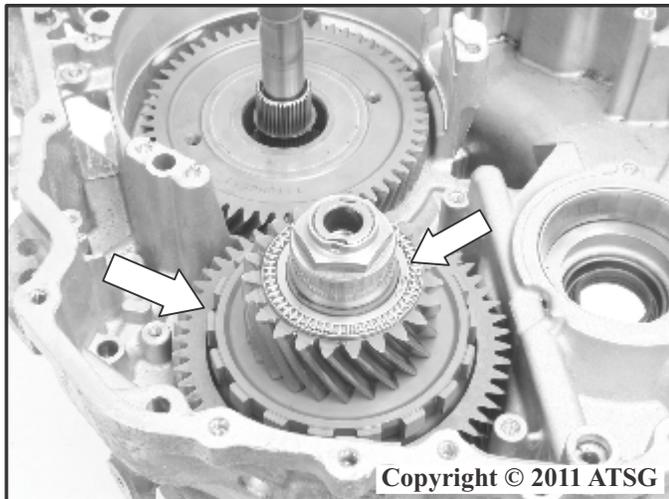

Figure 228
44. Using Universal Clamp Press J 45053 or other adequate puller device, attach the clamp and carefully install the front differential assembly transfer drive gear assembly into the transmission case as shown in Figure 228. It will be necessary to twist the transfer drive gear assembly in order to spline with all the frictions of the 4-5 clutch (C3) drum.
45. Install the front differential transfer drive gear thrust washer (selective) and the transfer drive gear bearing assembly. Refer to Figure 228.
50. Once the proper shims and washers are selected, reinstall the transfer drive gear assembly and install the thrust washer and bearing as shown in Figure 228.